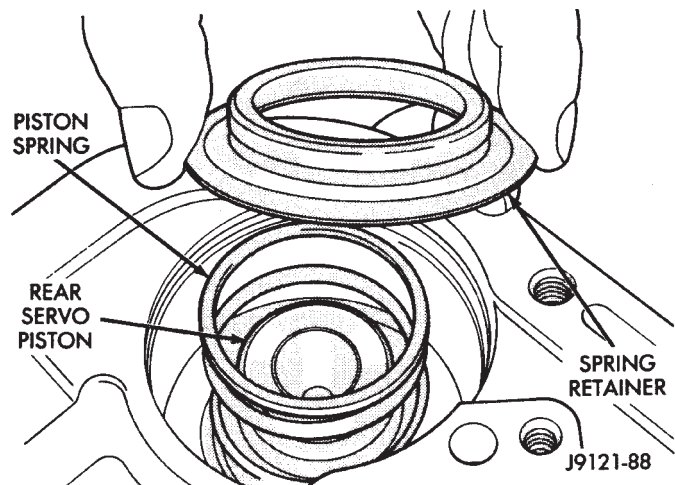

Fig. 122 Rear Servo Piston Spring And Retainer
(3) Install rear servo spring and retainer in case bore (Fig. 122). Be sure spring is seated on piston.